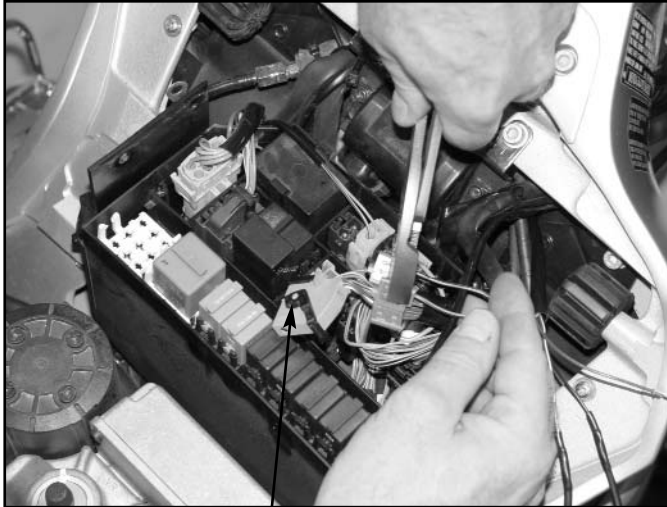

Figure 18
3. Using the supplied Scotch-Lock connectors, connect the wires from the Gauge Harness in the following manner: (**Figure 18.**)